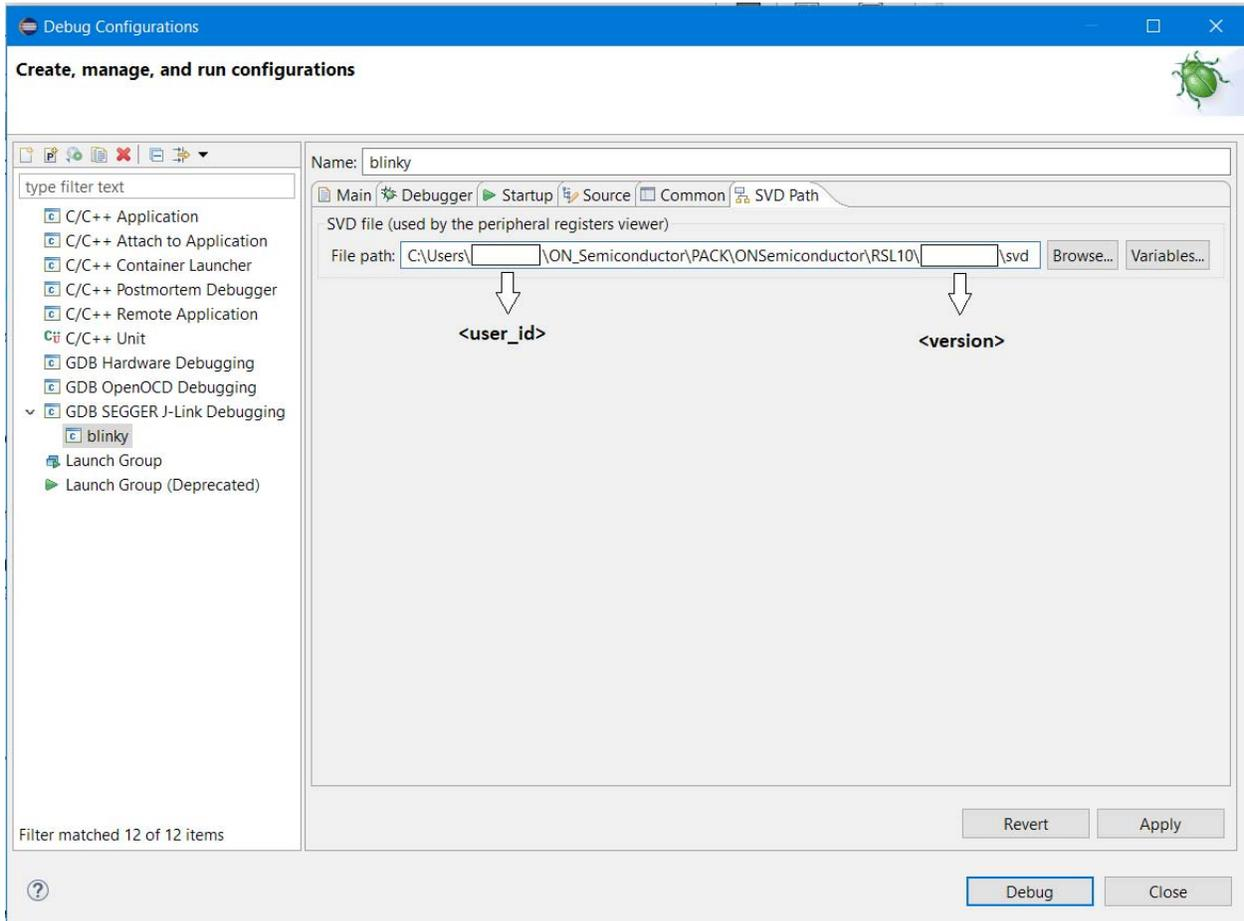

Figure 12. SVD Path Tab Debug Perspective
2. Change to the **SVD Path** tab, and set the path to the *rsl10.svd* file as `C:\Users\<username>\AppData\Local\Arm\Packs\ONSemiconductor\RSL10<version>\svd\rsl10.svd` (see Figure 12). Click **Debug**.